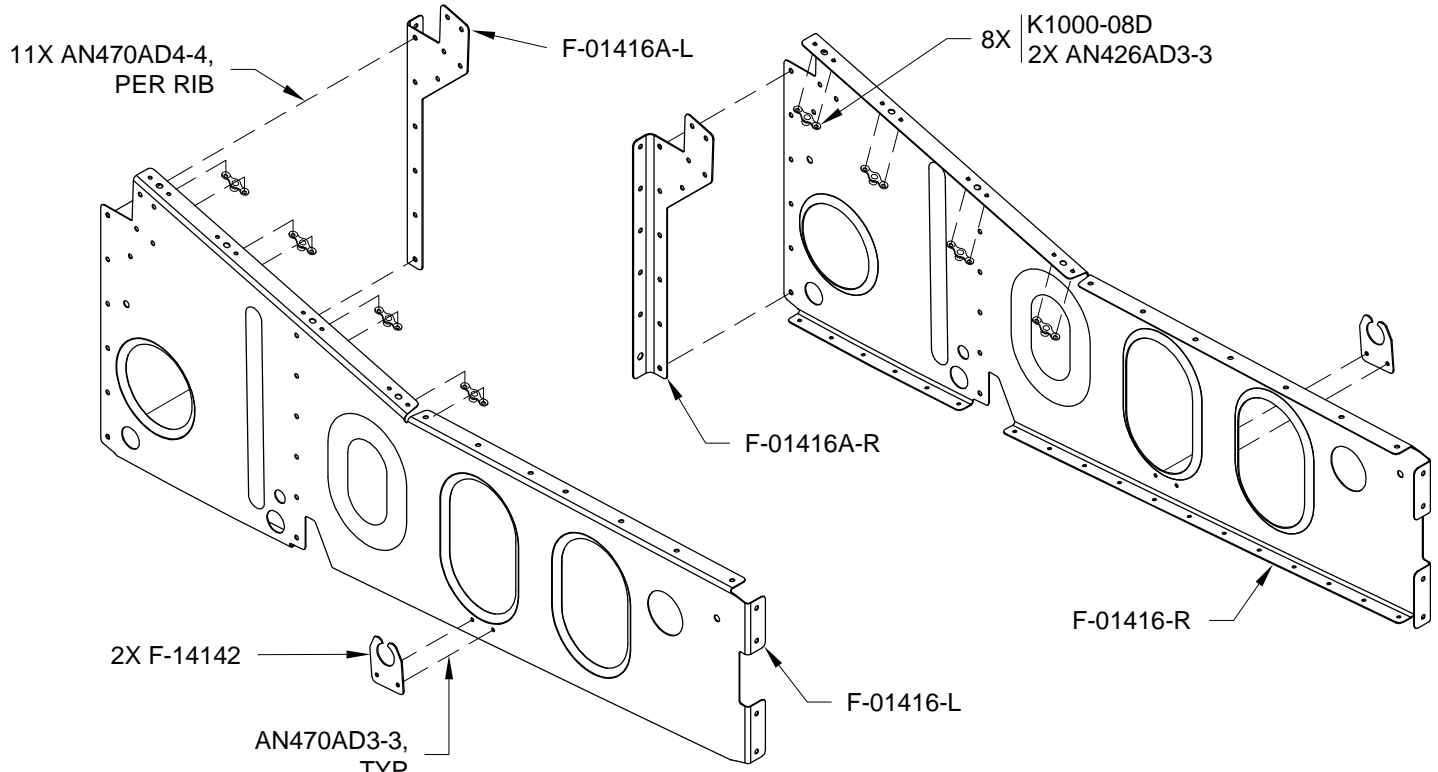

FIGURE 2: RIVET NUTPLATES & DOUBLERS TO RIBS
Step 7: Rivet the F-14142 Bushing Clips to the F-01416-L & -R Seat Ribs as shown in Figure 2.